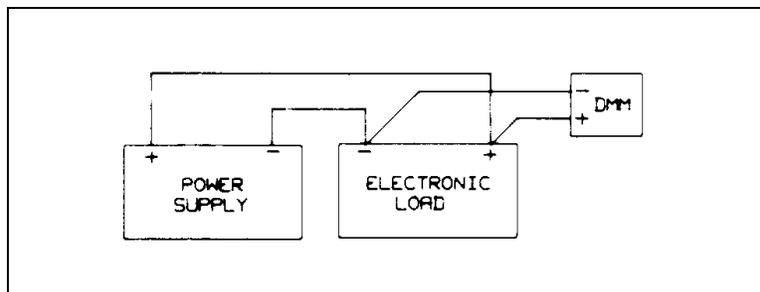

Figure 2-2. Test Setup B
a. Connect the Electronic Load, power supply (HP6032A, 6030A or equivalent), and DMM as shown in Figure 2-2. Take care in making connections so that contact resistance voltage drop will not affect the readings.